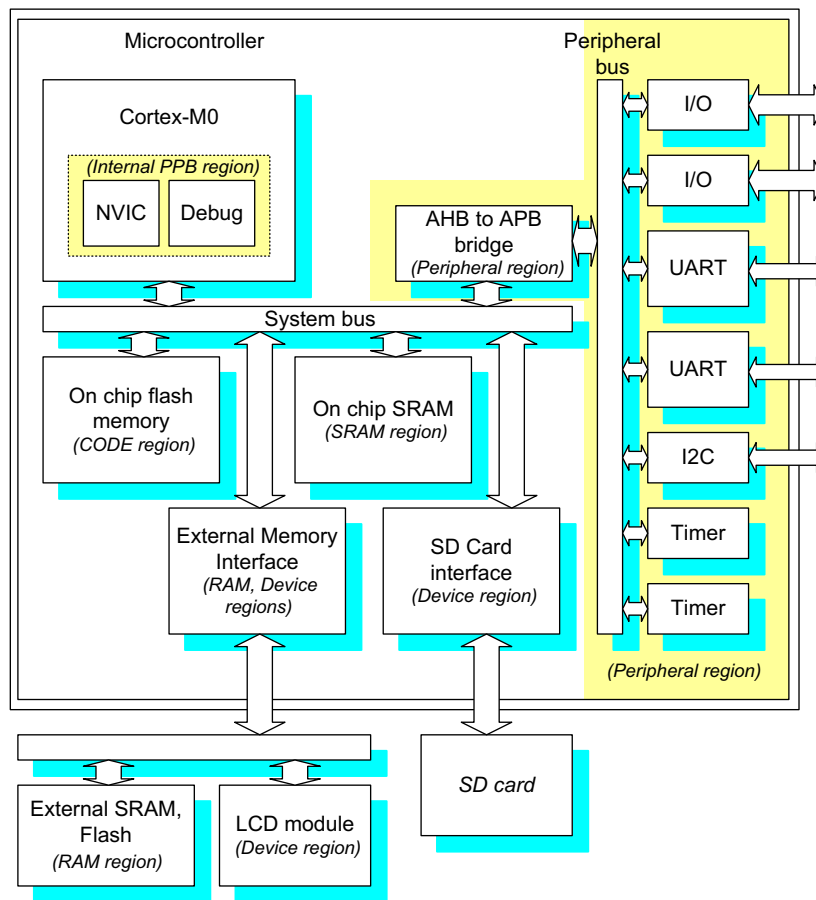

Figure 7.3:
After putting all these components together, an example microcontroller could be illustrated as shown in Figure 7.3.
Figure 7.3 shows how some memory regions can be used. However, in many low-cost microcontrollers, the system designs do not have any external memory interface or Secure Digital (SD) card interface. In these cases, some of the memory regions, like the external RAM or the external device regions, might not be used.